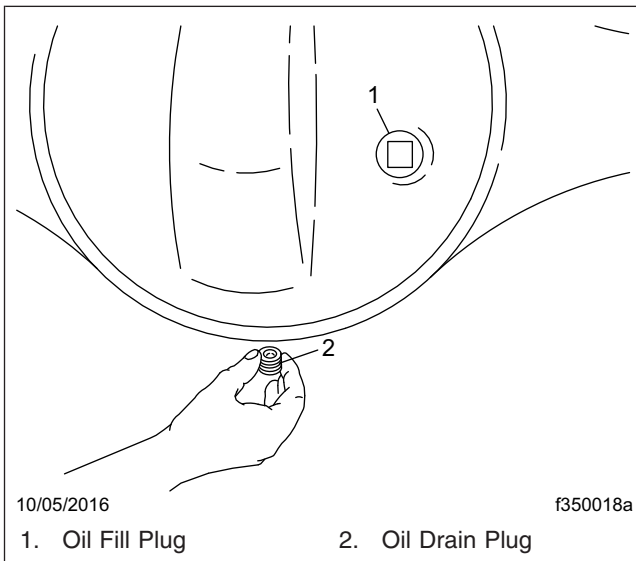

Fig. 6, Axle Housing Drain and Fill Plugs
2. Clean the fill plug and the area around it. In the axle housing rear cover, remove the plug from the oil fill hole (or standpipe, if installed in the oil fill hole). See **Fig. 6**.
3. Place a drain pan under the rear axle drain plug. See **Fig. 6**. Drain the oil at normal operating temperature, 150 to 200°F (65 to 93°C). At this temperature, the oil will run more freely and ensure that the axle is flushed.